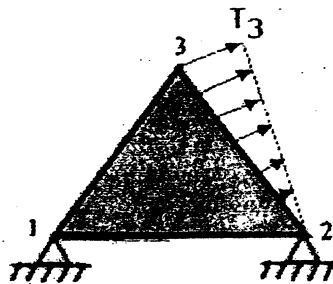

Fig. 2
- b) Considering plane stress condition, find out the nodal displacements and stresses of the CST element as shown in Fig. 2.  $E = 30 \times 10^6$  psi,  $t = 0.3$  in,  $\gamma = 460$  lb/in3,  $\nu = 0.3$ ,  $T_3 = 360$  psi with usual notations. [12]